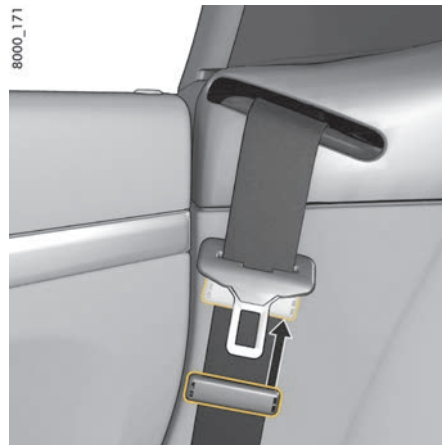

Fig. 183: Removing the seat belt
3. Guide the belt latch to approx. 7 cm below the deflection bracket of the retractor roller and lock it using the plastic slide (Fig. 183). The plastic slide serves to hold the belt latch in an easily accessible position.